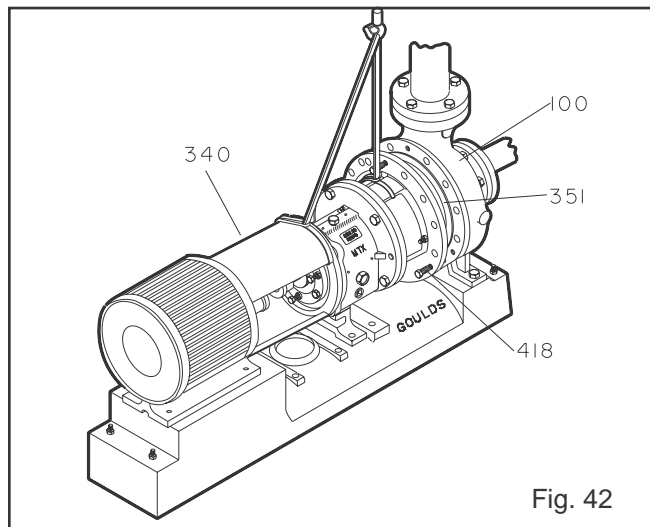

Fig. 42
*C-Face adapter:* Place one sling from hoist through frame adapter (108) or frame (228A) for STX and a second sling from hoist through the C-Face adapter (Fig. 42).